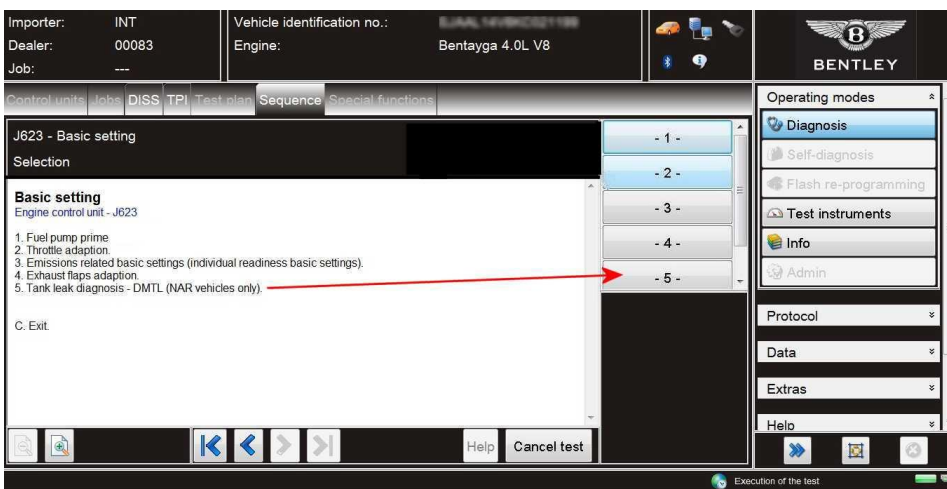

Figure 6
5) Referring to Figure 6 - Select -5- Tank leak diagnosis – DMTL (NAR vehicles only)